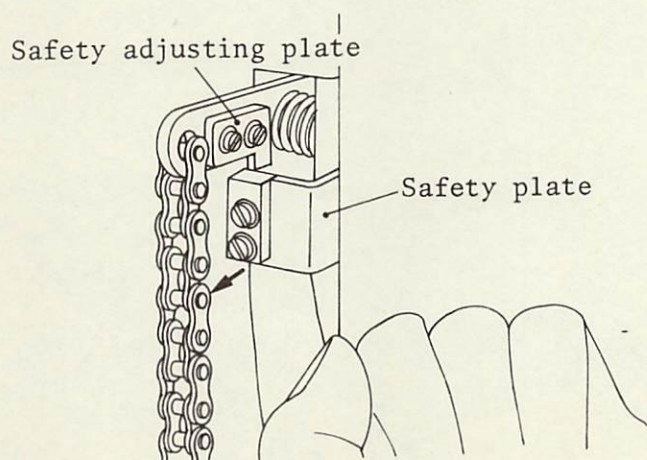

Fig.70
- 4) When the machine is started and if the pedal is returned in the midst of pedal operation, the work clamp foot will stop going up. But if the pedal is stepped on strongly, the machine will start. When the work clamp foot is to be raised up without starting the machine, pull the safety plate strongly toward the arrow direction.(Fig.70)